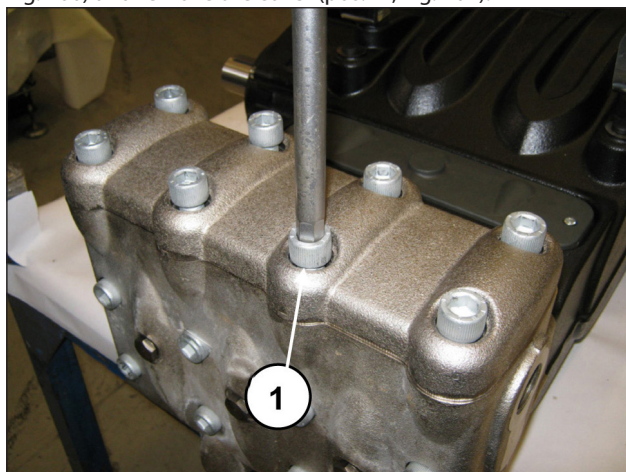
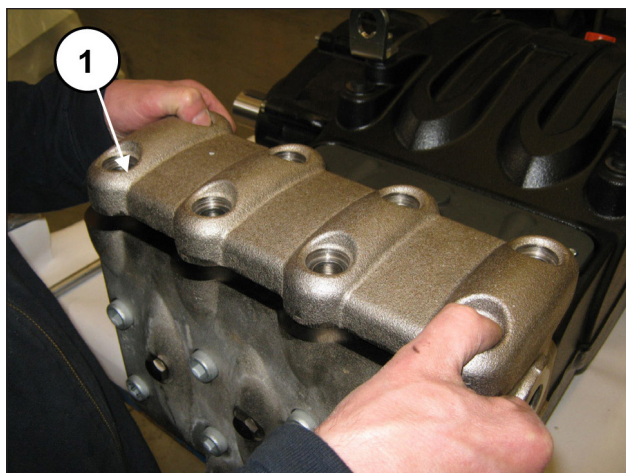

Fig. 100
Fig. 101
Unscrew the 8 M16x55 screws of the valves cover (pos. ①, Fig. 100) and remove the cover (pos. ①, Fig. 101).